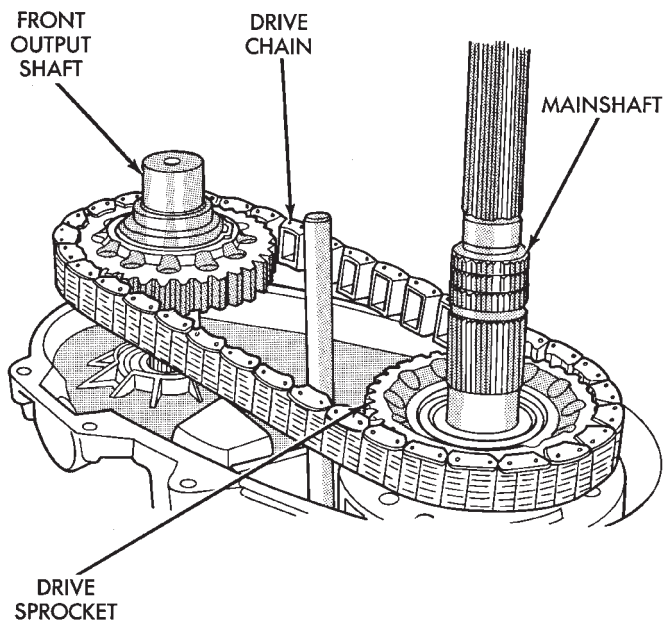

Fig. 68 Installing Drive Chain And Front Output Shaft
(1) Lubricate front output shaft-sprocket assembly, drive chain, and drive sprocket with transmission fluid.
(2) Assemble drive chain and front output shaft (Fig. 68).
(3) Start chain on mainshaft drive sprocket.
(4) Guide front shaft into bearing and drive sprocket onto mainshaft drive gear (Fig. 68).